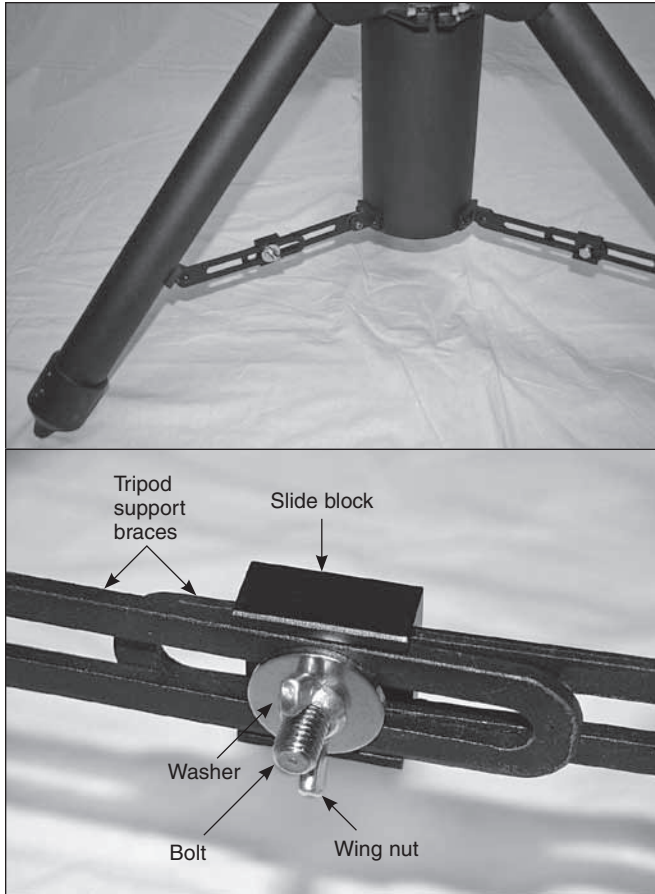

Figure 6. Clamp the tripod support braces with the included hardware as shown.
5. Clamp the three tripod support braces with the slide blocks and associated hardware as shown in **Figure 6**. Tighten the wing nuts.